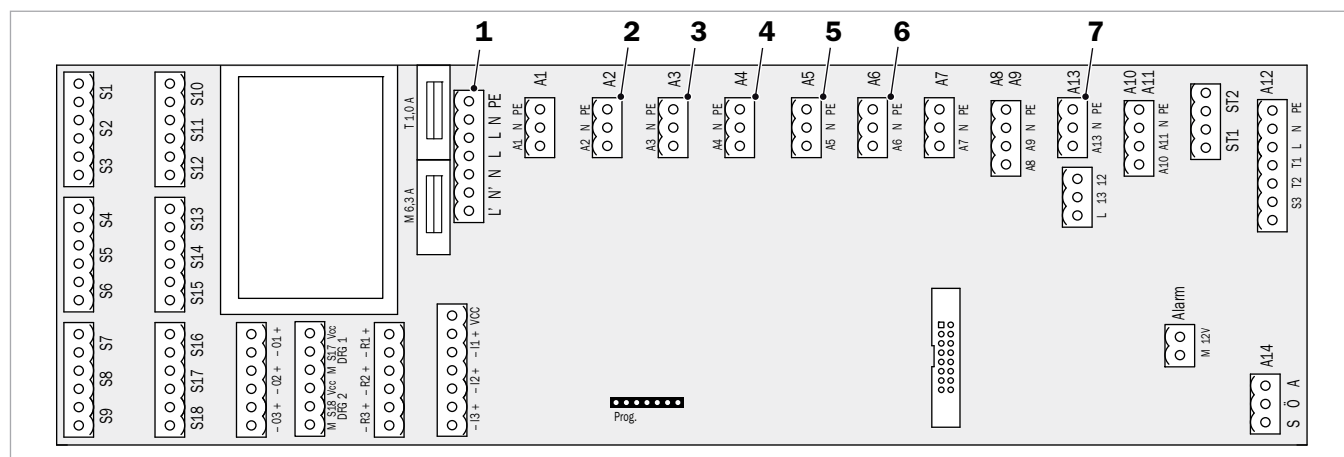

Fig. 8: Mains module
2. Remove the plug from (1) the mains module (→ Fig. 8) and plug it into (1) the emergency cable tree.